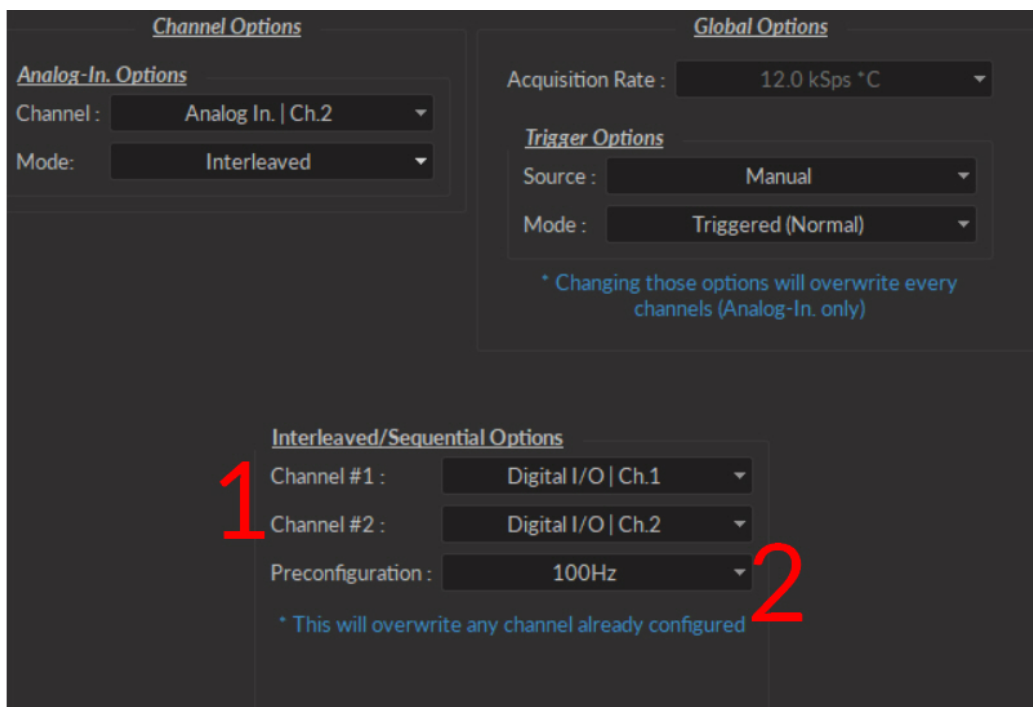

Figure 3.38: Channels configuration, Analog Input Interleaved Mode
The following section describes the usage of the **Interleaved** measurement mode for **Analog Input** channels. Once the **Interleaved** channel mode is chosen, the the **Interleaved/Sequential options** box (Fig. 3.38) appears, containing the following parameters.
- The **Raw Data** (AIn-1) (Fig. 3.38) shows the raw signal received on the input channel.
- The **Intermediate Data** (AIn-1 x DI/O-1) (Fig. 3.38) traces show the fluorescence signal caused by each light source, obtained by multiplying the output signals by the input signal.
- The **Deinterleaved Data** (AIn-1 x DI/O-1(mean)) (Fig. 3.38) shows the averaged signal of each demodulated pulse. This leaves a single averaged point per pulse sent by the output channels.